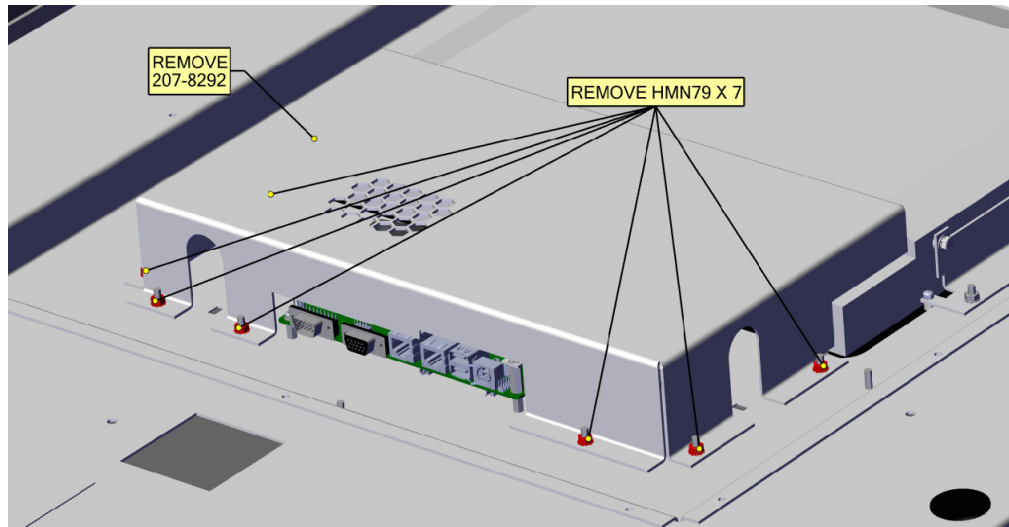

Figure 1: SBC Cover Removal
- Remove the old SBC cover (Nautel part # 207-8292) using a 7-mm nut-driver/socket to remove the seven (7) M4 hardware, which holds the SBC's protective cover to the front door of the transmitter. Retain hardware. See Figure 1.